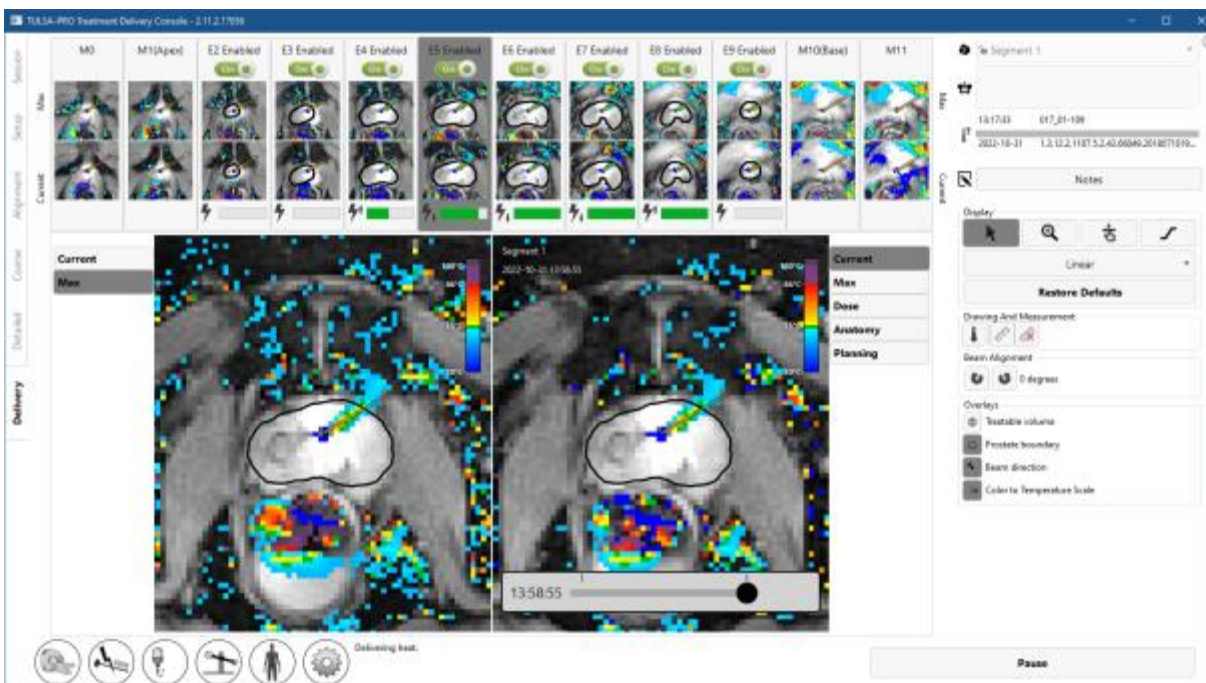
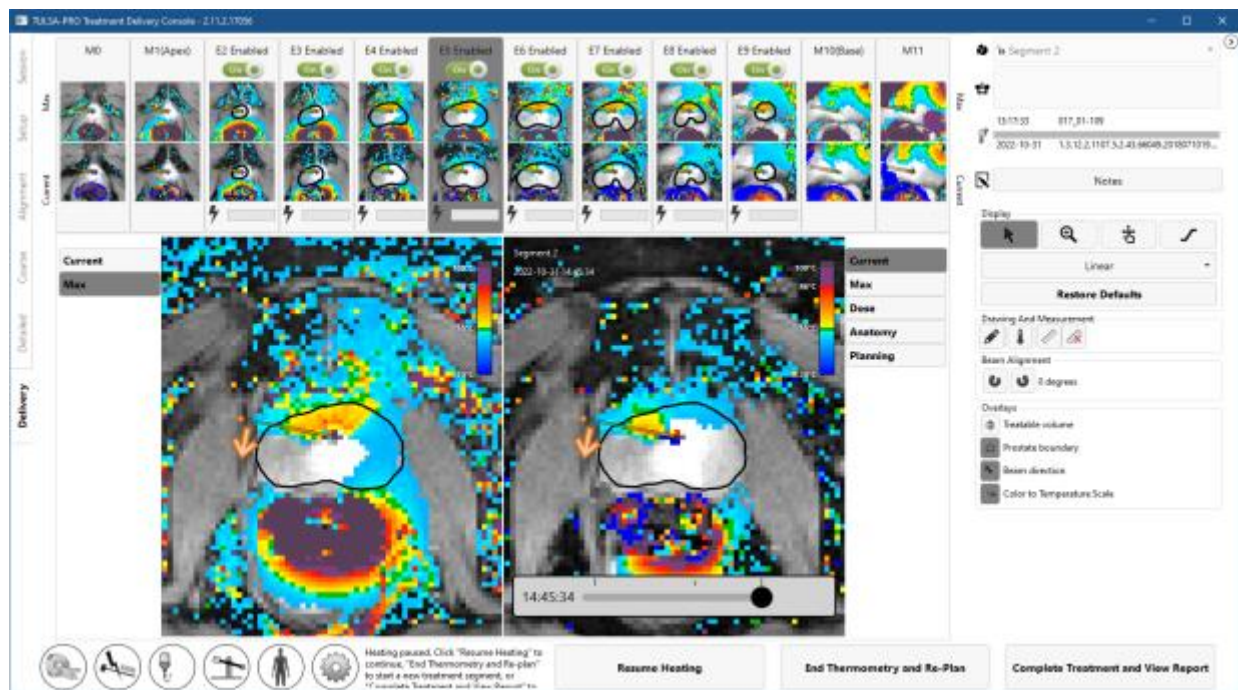

Figure 44: Ultrasound heating has begun
Figure 49: Delivery workspace with treatment and heating paused
Radiologist: After receiving 25 thermometry dynamics, heating begins (*Figure 44*). Throughout the ablation, actively monitor real-time treatment images on all slices, ensuring that:
**Radiologist:** At any time during Delivery, click **Pause** in the bottom-right corner of the screen (see *Figure 44*). While in the paused state, all heating from the UA is suspended while thermometry acquisition continues (*Figure 49*).